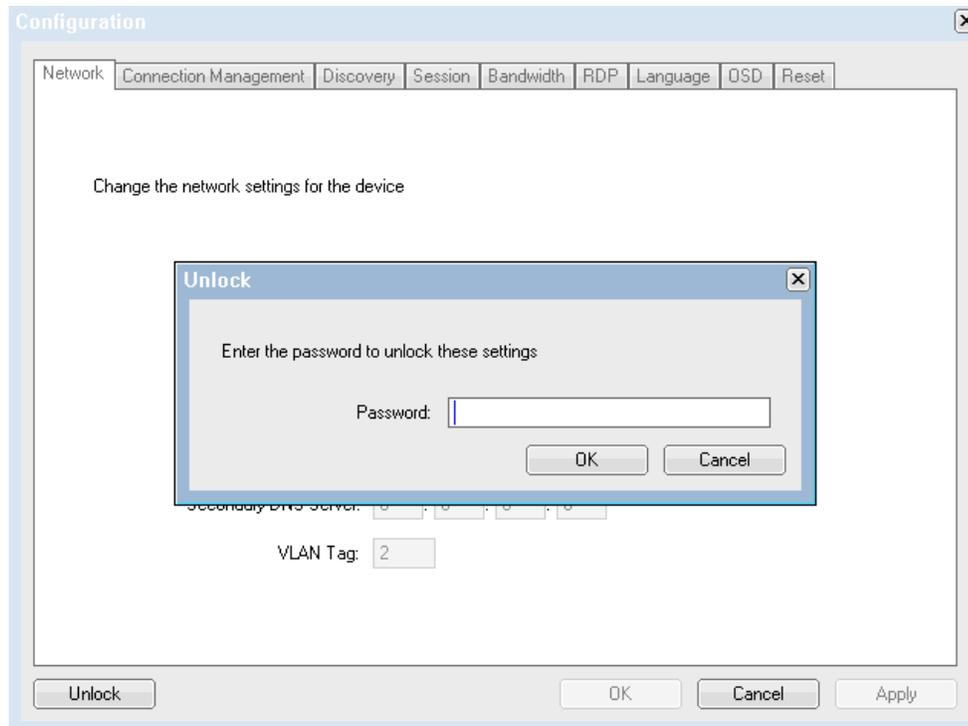

Figure 6-9 Unlock the settings on the CP20 interface
5. Enter the password that you just created. If you did not create a new password, enter the default: PASSWORD (with a zero not the letter *O*). See Figure 6-9. Click **OK**.